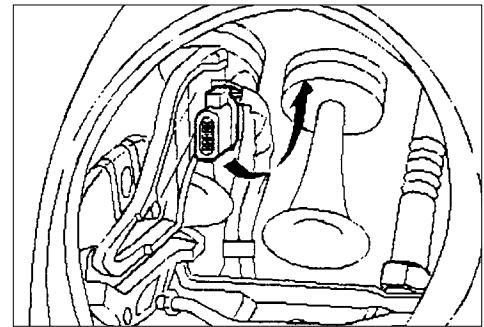

Figure 6
5.1 - Turn the electrical connector 90° to unlock and remove the connector (Figure 6).